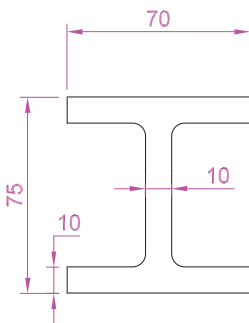

Fig. 12.38 Example – Sweep – the outline to be swept
1. Construct the pline outline (Fig. 12.38) in the **View Cube/Top** view.